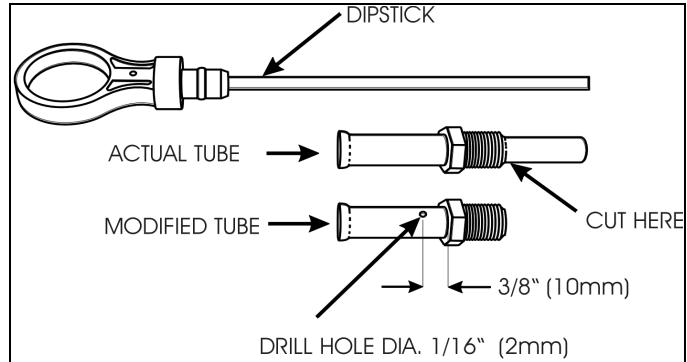

FIGURE 2 : DRILLING OF A VENT
To avoid leakage, it is suggested to drill a small vent in the oil gauge tube (depending on the type of gauge, see figure 2).
1. Remove oil gauge and gauge tube (figure 2).